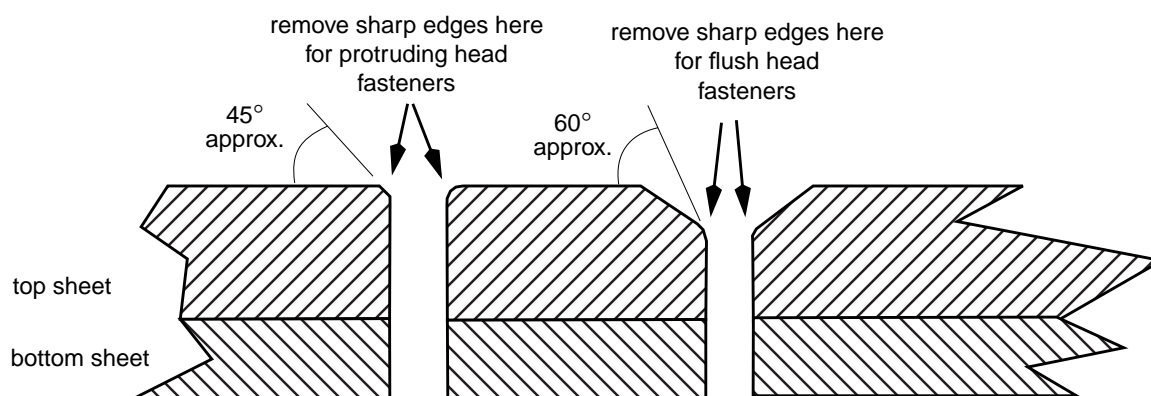

Figure 3 - Preparation of Hole Edges for Fastener Seating
Step 5. On metallic parts, edge corner relieve the fastener hole (see Figure 3) according to PPS 27.05 to produce a slight chamfer. On composite parts, remove sharp hole edges or ridges of excess resin using abrasive paper (ref. para. 4.2.6); take care to avoid exposing the reinforcing fibres.